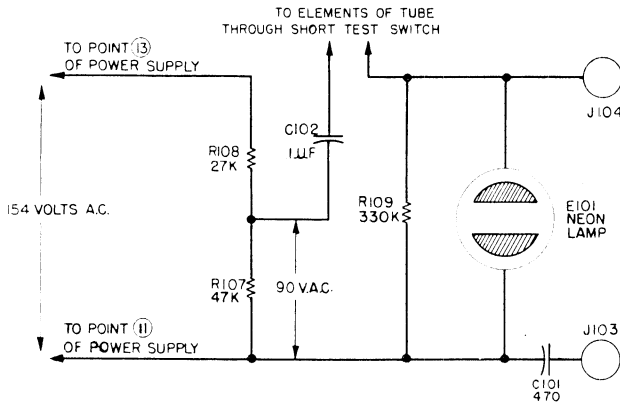

Figure 2-5. Simplified Short Test Circuit
5. SHORT TEST. (See Figure 2-5 & 2-15)
(See Figure 2-5)